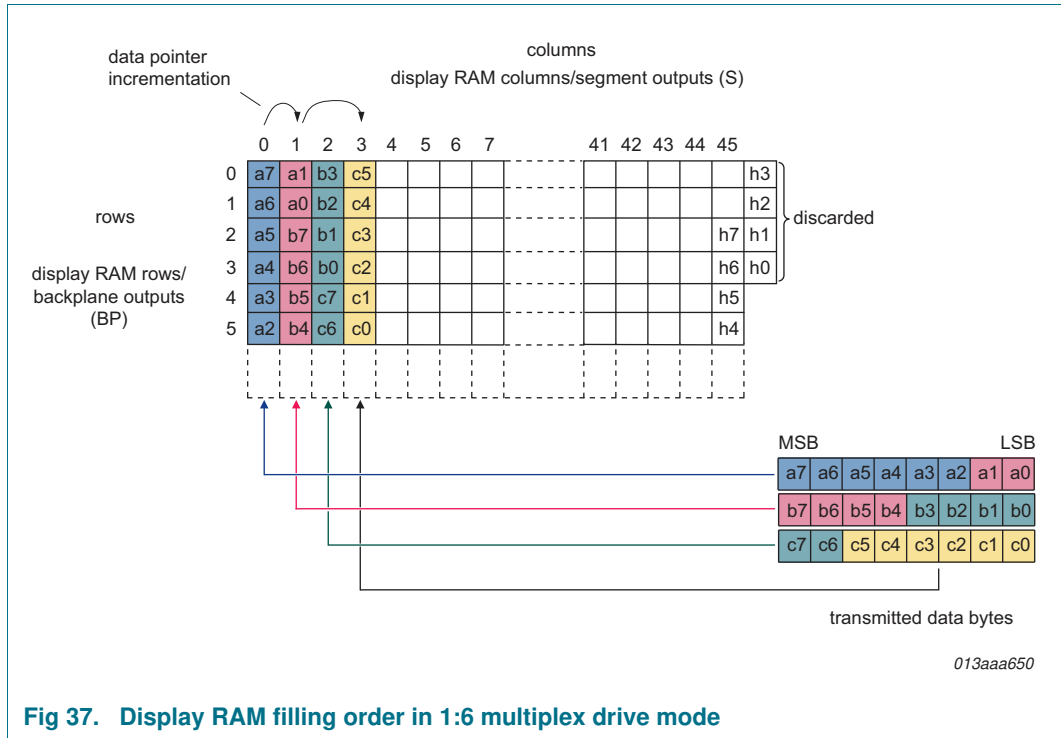

Fig 37. Display RAM filling order in 1:6 multiplex drive mode
- by one or two (1:6 multiplex drive mode), see Figure 37 on page 49
In the 1:6 multiplex drive mode the RAM is organized in six rows and 46 columns. The eight transmitted data bits are placed in such a way, that a column is filled up (see Figure 37). The remaining bits are wrapped up into the next column. In order to fill the whole RAM addresses 35 bytes need to be sent to the PCF8537, however the four least significant bits of the 35th byte are discarded.
When data transfer is initiated, then the MSB of the first byte will always be placed in row 0. Data must be transferred contiguously to achieve RAM filling as described in Figure 37.